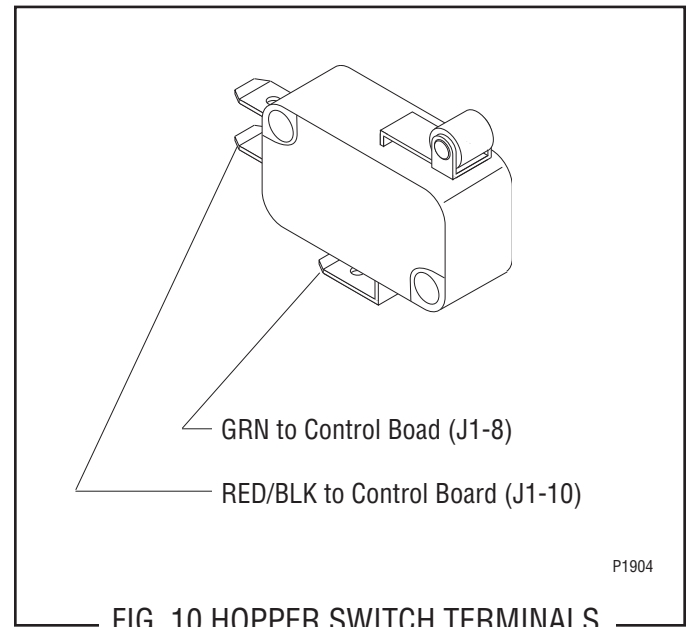

FIG. 10 HOPPER SWITCH TERMINALS
19. Connect the red/black and green wires to the hopper switch, Fig.10 and install the hopper support panel using the four #8-32 screws.